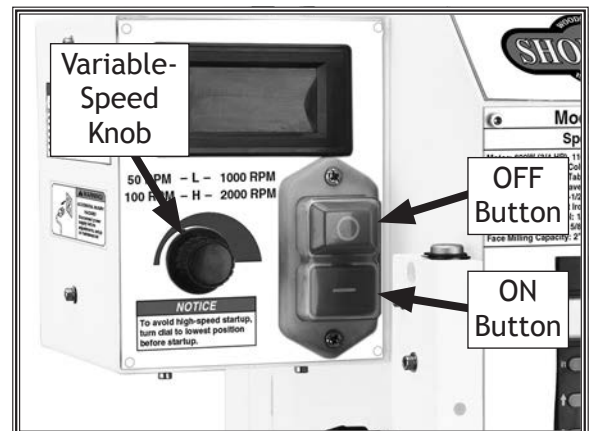

Figure 14. Location of mill/drill controls (front).
2. Press **OFF** button (see **Figure 14**). This will help prevent unexpected startup when machine is connected to power.